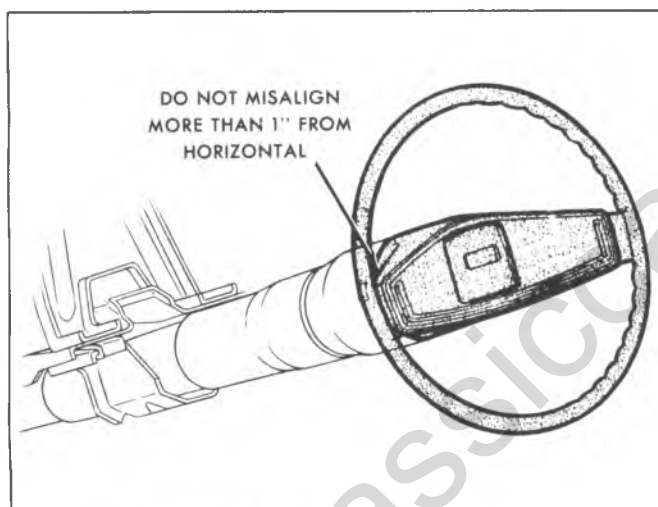

Fig. 3B4-17—Steering Wheel Alignment
2. Applying 50 lb. force to the steering wheel end of the steering shaft, adjust clamp to obtain clearances indicated in Figure 3B4-18.